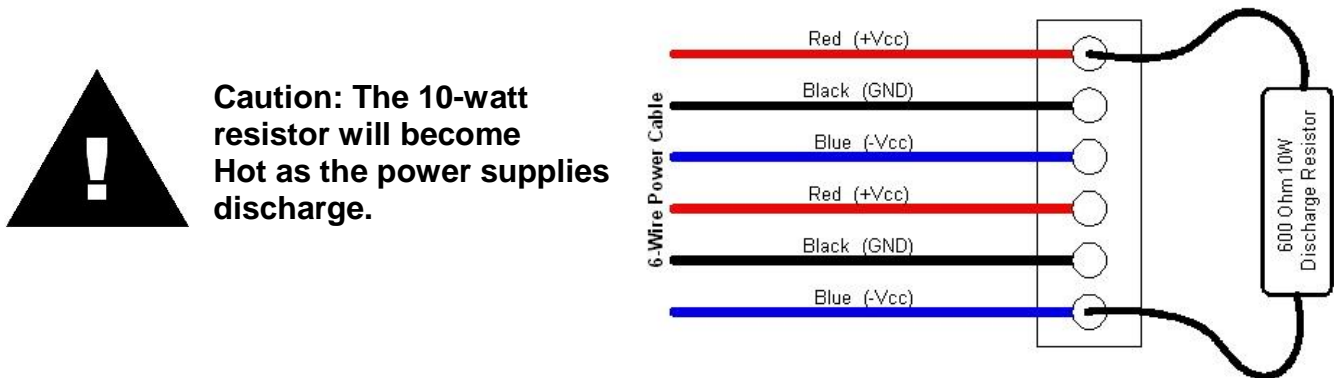

Figure 4.4 Power Cable and Discharge Resistor
4. Connect a 600 Ohm 10 watt resistor as shown in Figure 4.4. Be careful not to touch the leads, as voltages in excess of $\pm 100V$ could be present.